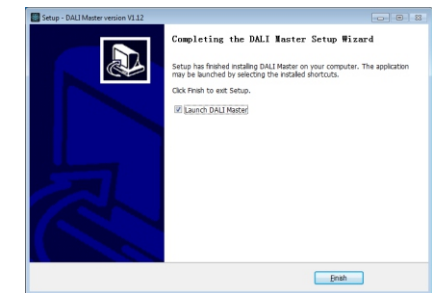

Figure 6 Complete Installation
Step 6: Complete installation as shown in Figure 6.